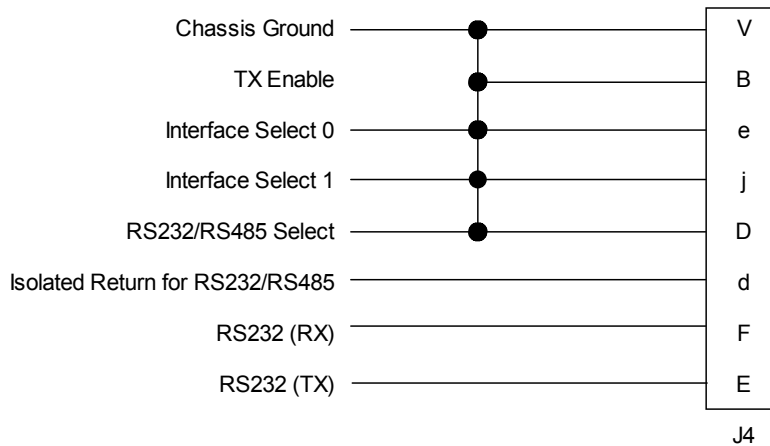

Figure 3-4: J4 Connections for RS-232 Communications
5. Connect the supplied “Quick-Start” Control Cable from Port J4 to the Ethernet port on your computer. This connection will unmute the amplifier. Review the cable schematic in **Figure 3-4**.